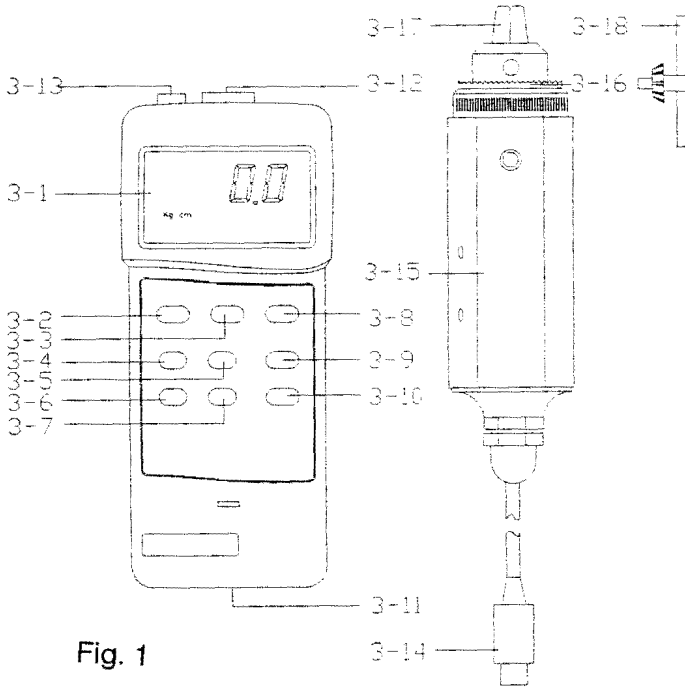

Fig. 1
- 1) Plug in the " Sensor Cable Plug " (3-14, Fig. 1) to meter's " Sensor Input Socket " (3-12, Fig. 1).
- 2) Power on the meter by push the " Power Button " (3-2, Fig. 1).
- 3) Push the " Sensor Type Button " (3-8, Fig 1) to check if the meter's sensor type is same as the external torque sensor.
Push the " Unit Button " (3-5, Fig. 1) to select the unit Kgf-cm, LBf-inch or N-cm (Newton-cm).
Push the " Resolution Button " (3-7, Fig. 1) to select the High resolution or Low resolution.
The " Fast/Slow Button " (3-10, Fig. 1) is used to select the fast sampling time or slow sampling time.
7) To connect the "Cramp" (3-17, Fig. 1) to the measured installation and use the "Opinion" (3-18, Fig. 1) to lock the "Gear" (3-16, Fig. 1). Ref. Fig. 2 & Fig. 3.
Before the measurement, if the meter not show zero value, it can push the " Zero Button " (3-9, Fig. 1) to tare the display value, the LCD will change to zero value.
During the measurement, push the " Peak Button " (3-6, Fig. 1), the LCD will show the " PEAK " indicator & the display will hold the peak value.
During the measurement, pushing the " Hold Button " (3-3, Fig. 1) will freeze the measured value & display will indicate " HOLD " symbol. Push the " Hold Button " again to release the data hold function.
* The DATA RECORD function displays the maximum and minimum readings. To start the DATA RECORD function, press the " Max./Min. Button " (3-4, Fig. 1) once. " REC " symbol will appear on the LCD display.
(a) Push the " Max./Min. Button " (3-4, Fig. 1)
To disable this feature, Select the memory record function during measurement, by pressing the " Max./Min. " button (3-4, Fig. 1).
The instrument features an RS232 output via 3.5 mm Terminal (3-13, Fig. 1).